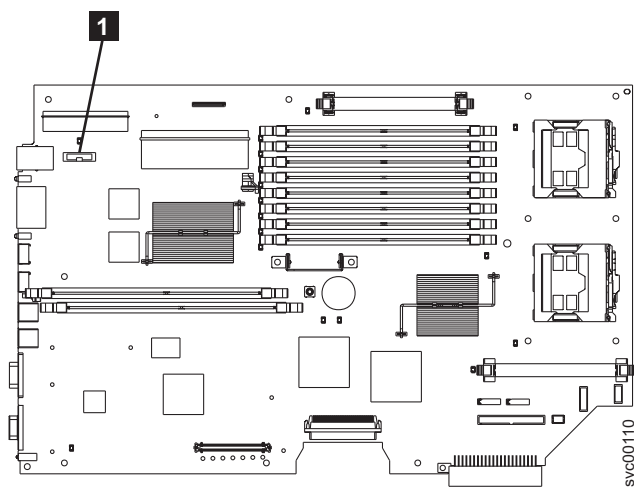

Figure 144. Location of the CMOS battery on the SAN Volume Controller 2145-8F2 or the SAN Volume Controller 2145-8F4
1. Insert the new battery in the battery socket. Figure 144 shows the location (1) of the battery socket.